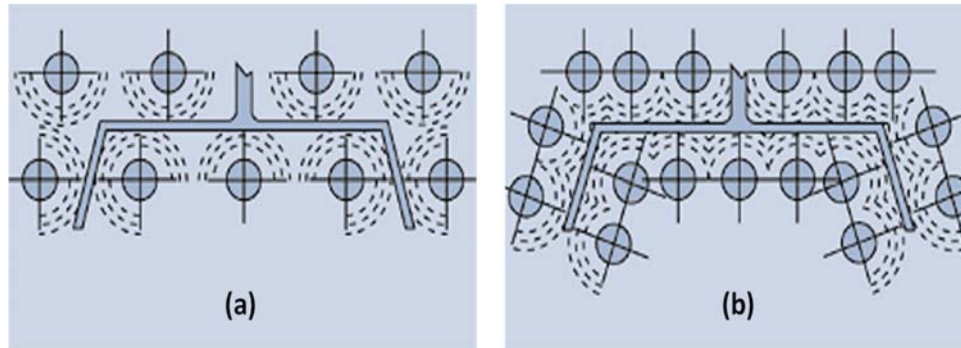

Figure 3: Position of cooling channel.
- (2). A mold engineer is tasked with designing the position of cooling channels in mold design. **Figure 3** shows the position of cooling channels that could be selected for the cooling channel configuration.
- (a). Based on **Figure 3**, choose the best cooling channel position to be used for the mold design. Give justification for your answer.